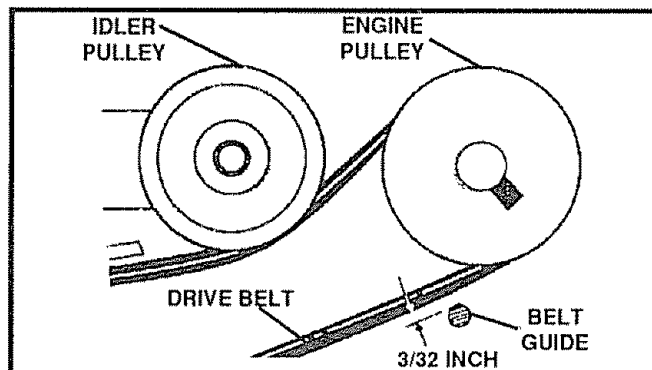

FIG. 12B
- Move belt guide into position. (The belt guide should be 3/32" from belt when belt is engaged as shown in Fig. 12B, page 16).